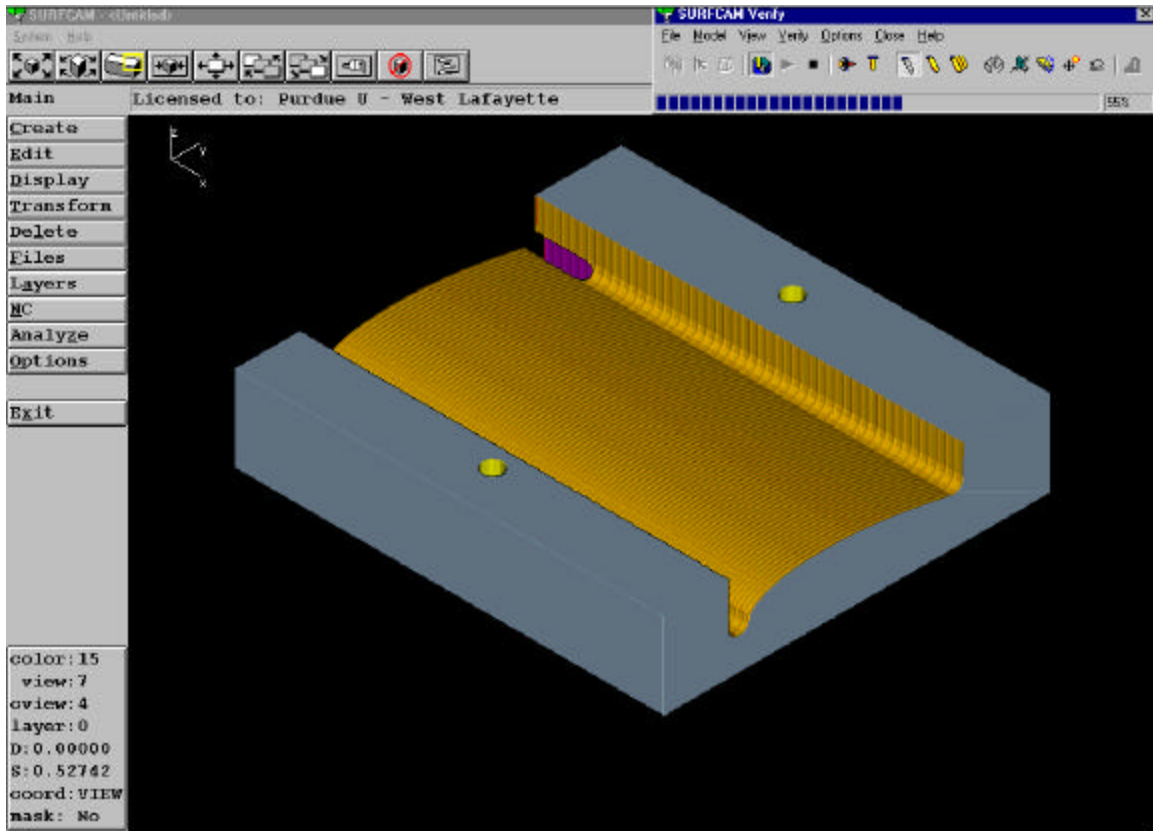

Figure 21: Simulation of wing being cut
- 5.) On the 'Verify Toolbar', click the 'Simulation Mode' button. This will render the material box, and highlight the simulation buttons on the toolbar. Click the play button to watch the full simulation of the item to be cut. Figure 21 shows the wing mid simulation.